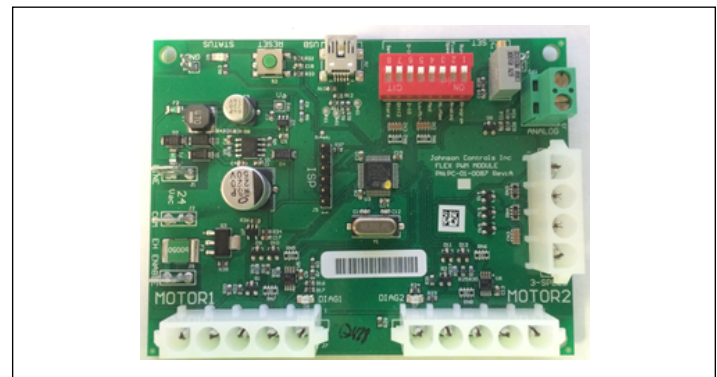

Figure 37 – G3 PWM Board
- a. Locate the G3 PWM board within the control enclosure (See Figure 37).